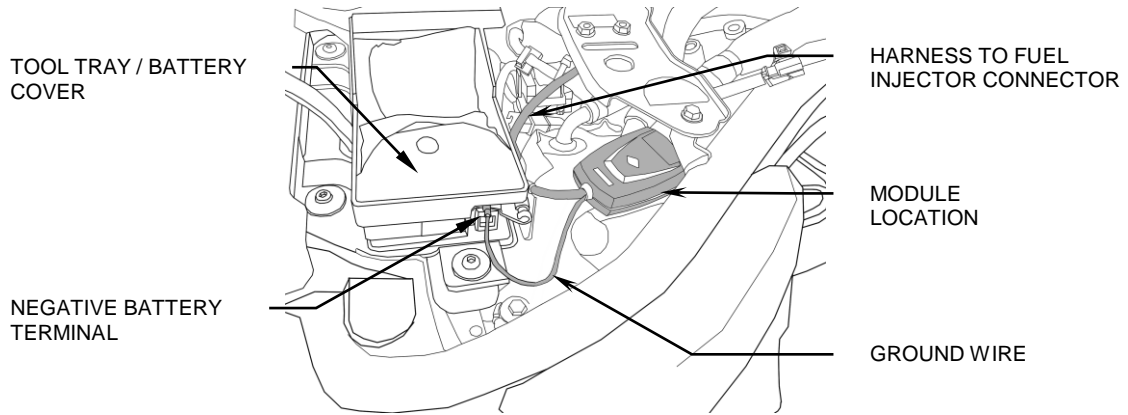

FIGURE 1
2. Position the Fi2000R module in the area under the seat, then feed the harness under the seat latch bracket and route it forward between the two large fuel hoses, see Figure 1.
5. Velcro the Fi2000R module to the black fuel pump tank, see Figure 1. Lift up the tool tray / battery cover to access the negative post of the battery. Attach the ground wire from the Fi2000R to the negative post. Reinstall the cover. Before reinstalling the seat, verify connections.